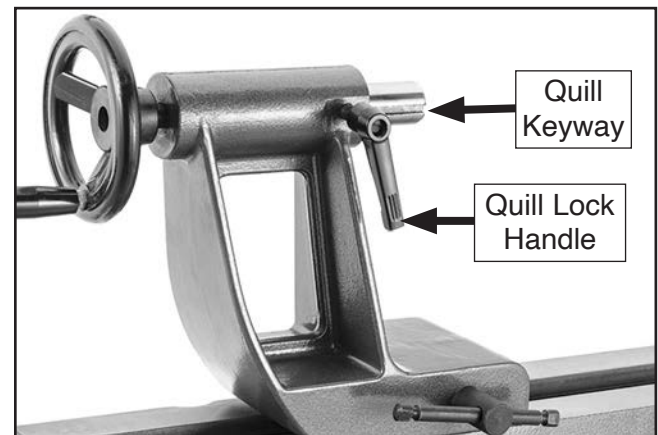

Figure 22. Quill keyway aligned with quill lock handle (center not shown for clarity).
5. Make sure center of quill lock handle is aligned with quill keyway to ensure tailstock center and quill will not freely rotate under load (see **Figure 22**).